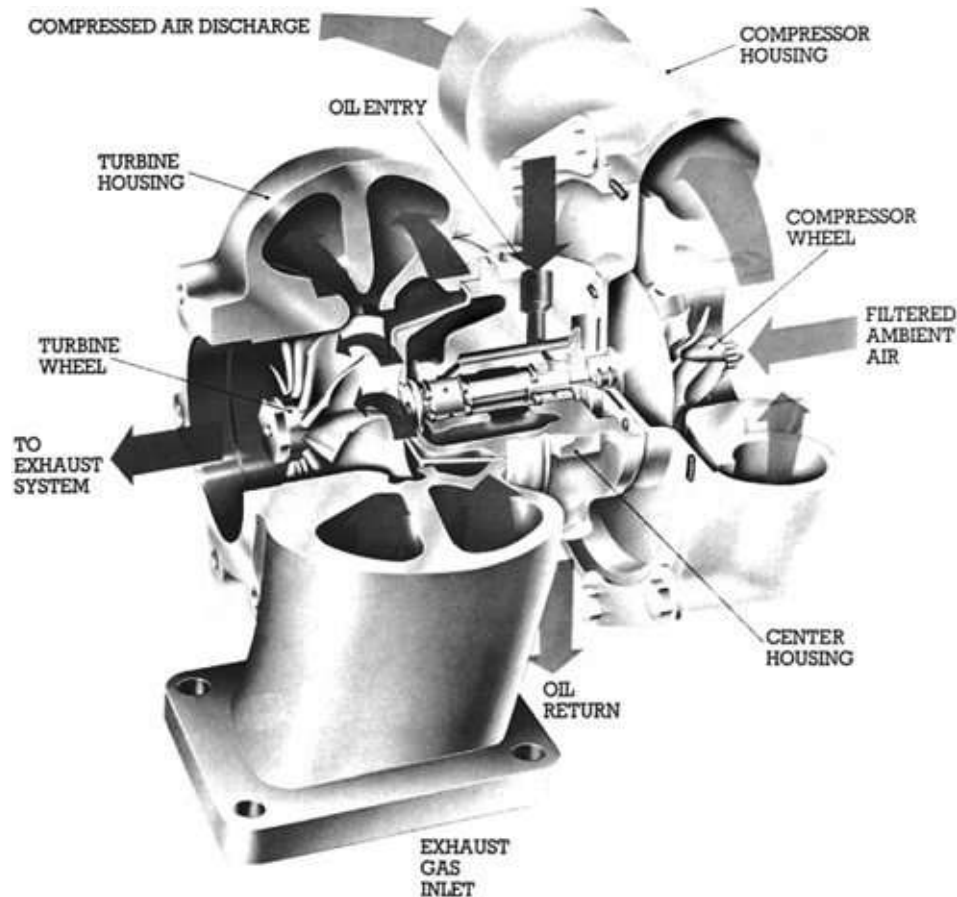

FIGURE 5-29. A cutaway view of a turbocharger. (Courtesy Garrett Automotive Products Co.)
2. Stop the engine, let the turbocharger cool, and remove the inlet and exhaust pipes from the turbine and compressor housings (these are the pipes going into the center of the housings; see Figure 5-29). This will give you a view of the turbine and compressor wheels. With a flashlight, check for bent or chipped blades, eroded blades, rub marks on the wheels or housings, excessive dirt on the wheels, and oil in the housings. The latter may indicate oil seal failure, but first check for other possible sources, such as oil coming up a crankcase breather into the air inlet, oil from an overfilled oil-bath type air cleaner, or a plugged oil drain in the turbocharger that is causing oil to leak into the turbine or compressor housings.